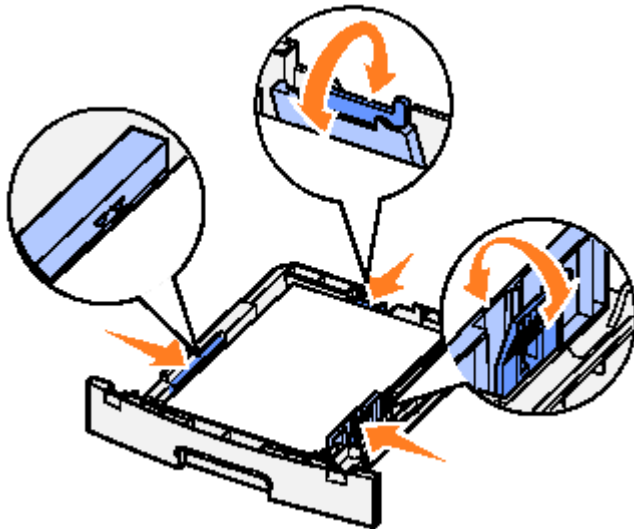

Figure 2: Adjust the side and back paper guides
4. Slide the two side guides and the back guide until they fit snugly against the stack of paper (**Figure 2**).